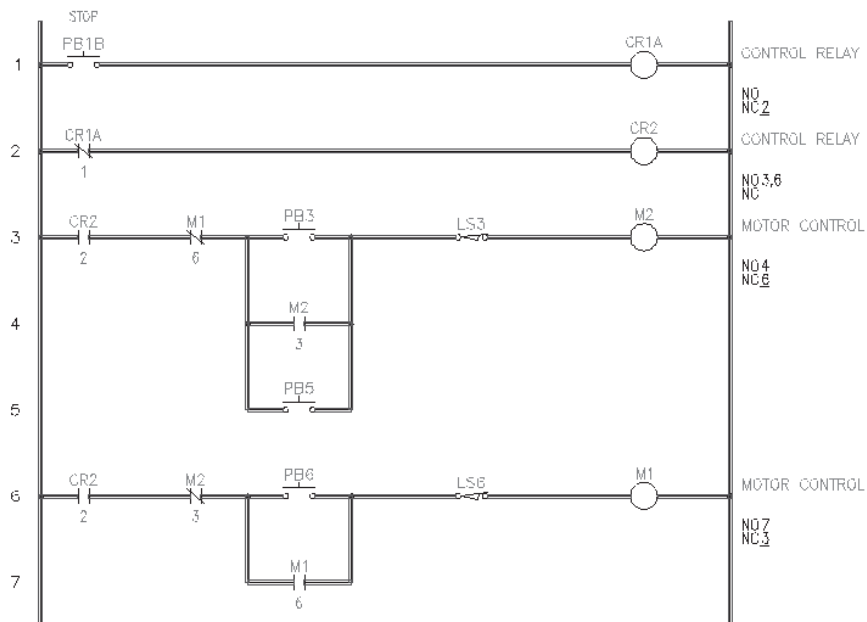

Figure 6-48 Visual wire indicators indicating wires in the drawing
7. The visual wire indicators in the diagram are shown in red color, as shown in Figure 6-48, which indicates the wires in the drawing.